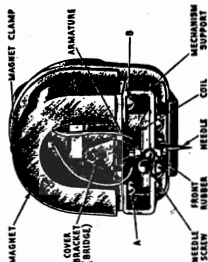

Figure 2
- Remove screws A and B, Figure 2, and then remove the mechanism assembly from the pole pieces.